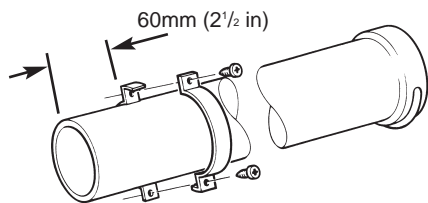

Fig. 56
3. Fit the support clamp provided, 60mm (2½ in) from the plain end of the flue tube and tighten with the two screws (Fig. 56).